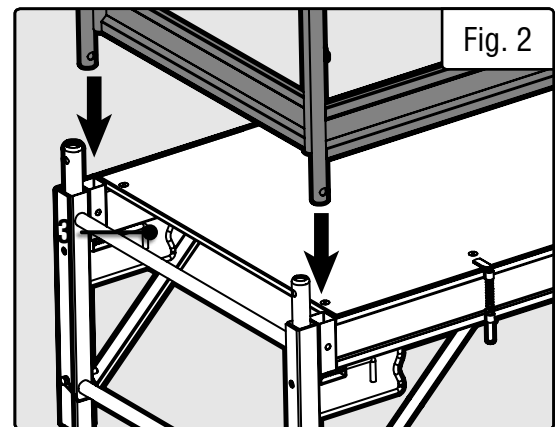
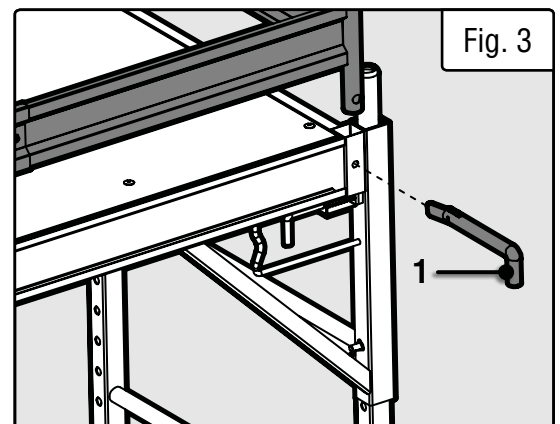

Fig. 2
Fig. 3
2. Install the first guardrail panel by inserting the two corner pegs into the sockets on the scaffolding side braces (Fig. 2). Secure the guardrail with two locking pins (Fig. 3 - 1). Make sure the end of the locking pin is flipped down and the pin cannot be accidentally knocked out. Make sure that the guardrail is firmly fastened to the platform and cannot be lifted. Repeat this step for the second guardrail panel.